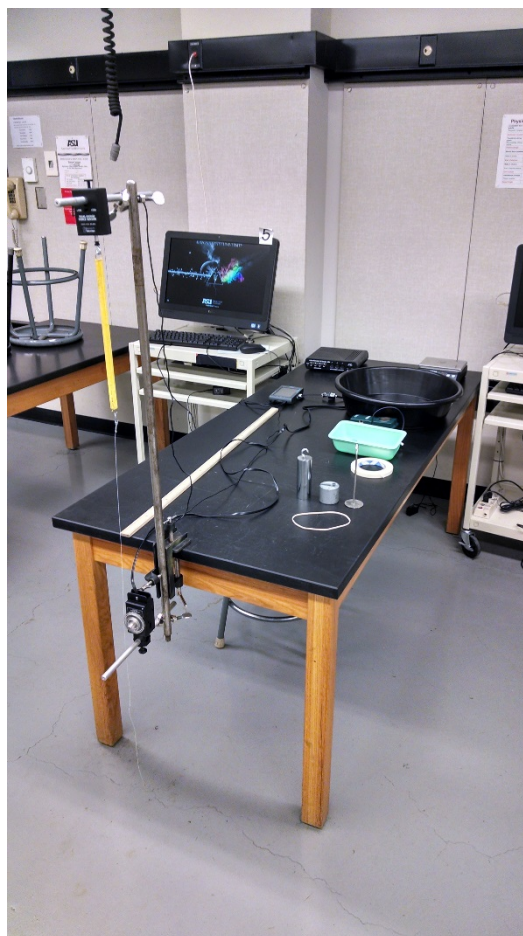

Figure 1 - The setup for Part A of the experiment.
**1)** Clamp the long pole to the edge of the table and clamp two shorter poles facing outward over the edge of the table as shown in Figure 1: one near the top of the long pole and the other near the bottom (beneath the clamp). Don't attach the sensors to the poles yet.
**5)** We have taken a small set of discrete measurements for the force and stretch, but it would be more useful to have a continuous measurement of these quantities. To do this we can use the force sensor and the rotary motion sensor. As shown in Figure 1, place the force sensor on the top pole with the hook facing down, and the rotary motion sensor on the bottom pole with the wheel facing away from the table. Make sure they are aligned on top of each other.